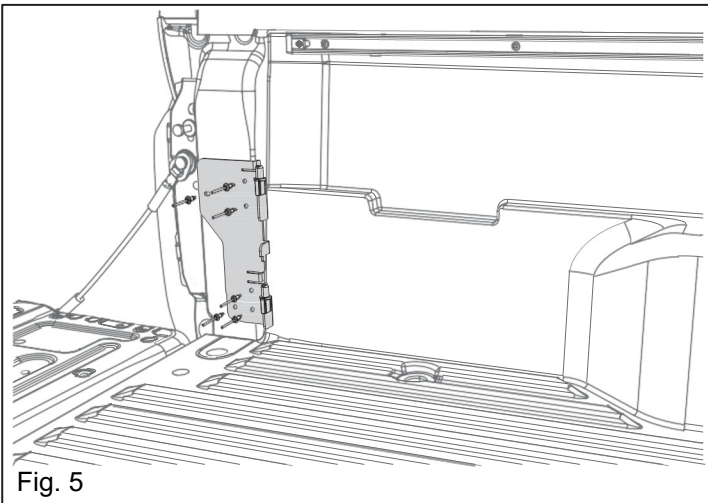

Fig. 5
4. Install the truck bracket, Fig. 5.